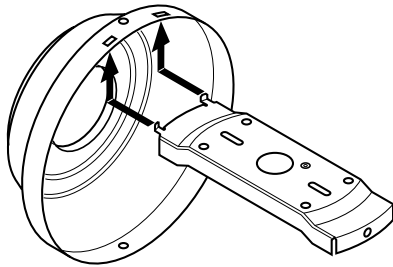

Figure 5a - Attaching Slots on Canopy to Ceiling Plate Hooks
2. Tilt and hang the assembled fan from the ceiling plate hooks. Slip two rectangular canopy slots over ceiling plate hooks as shown in Figures 5a and 5b.